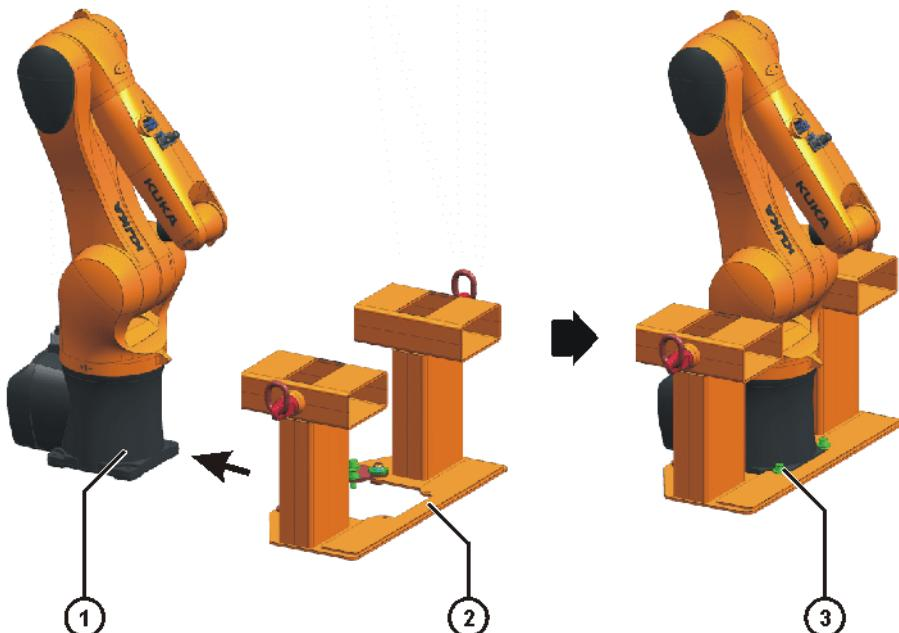

Fig. 8-3: Pushing on the Load Lifting Attachment and fastening it at the front
2. Carefully push the Load Lifting Attachment onto the base frame of the robot from the front (>>> Fig. 8-3).